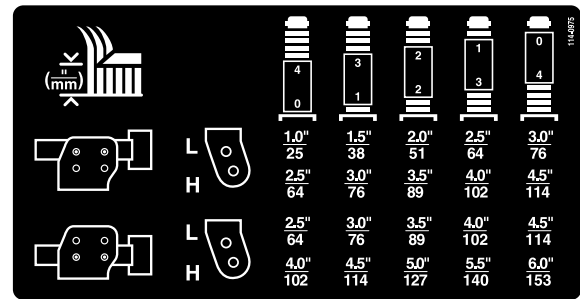

Figure 27
- Position the castor wheel axles in the same holes in all castor forks. Refer to the chart (Figure 27)